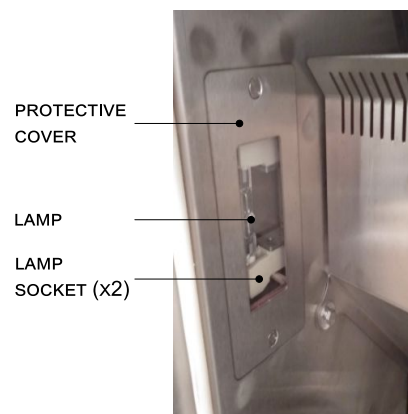

Figure 6: Backlight
2. Open the chamber. Lamp is located either on the upper side of the chamber, or on its left side, see Fig. 6.